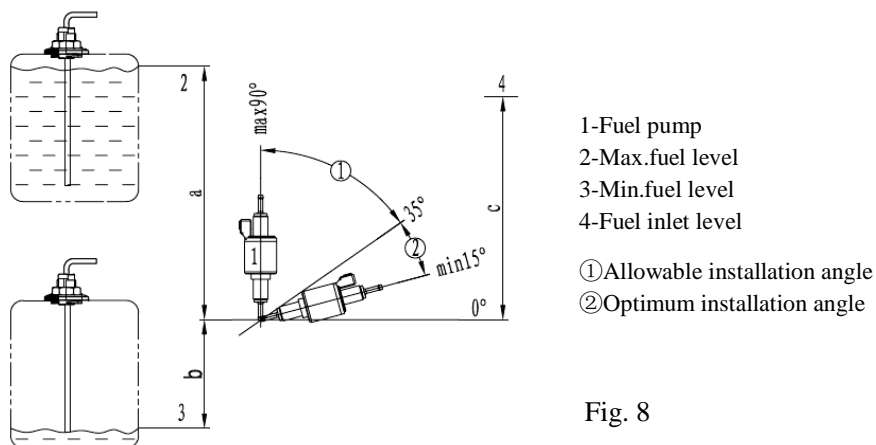

Fig. 8
4.5.1 The fuel pump shall be fixed in automobile with a fuel pump clamp with protective rubber cover. The outlet of the fuel pump shall tilt upwards. The tilt angle can be selected from the range of $15^{\circ}\sim 35^{\circ}$ (as shown in Fig. 8). When conditions permit, the fuel pipe between the fuel pump and the heater shall go up gradually.